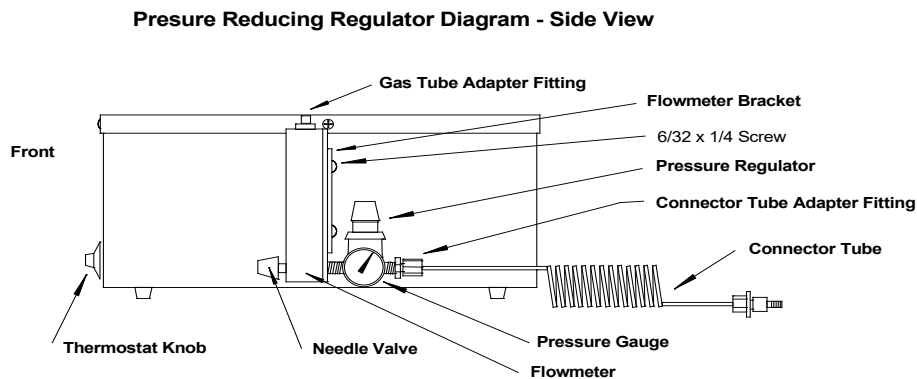

Figure 4
8. Pressure Reducing Regulator Option - If you do not have this option, proceed to the next section. When purchased with a ROT-X-TRACT System, this item is pre-installed onto the flow meter, between the flow meter and the water inlet tube. Refer to Figure 4.